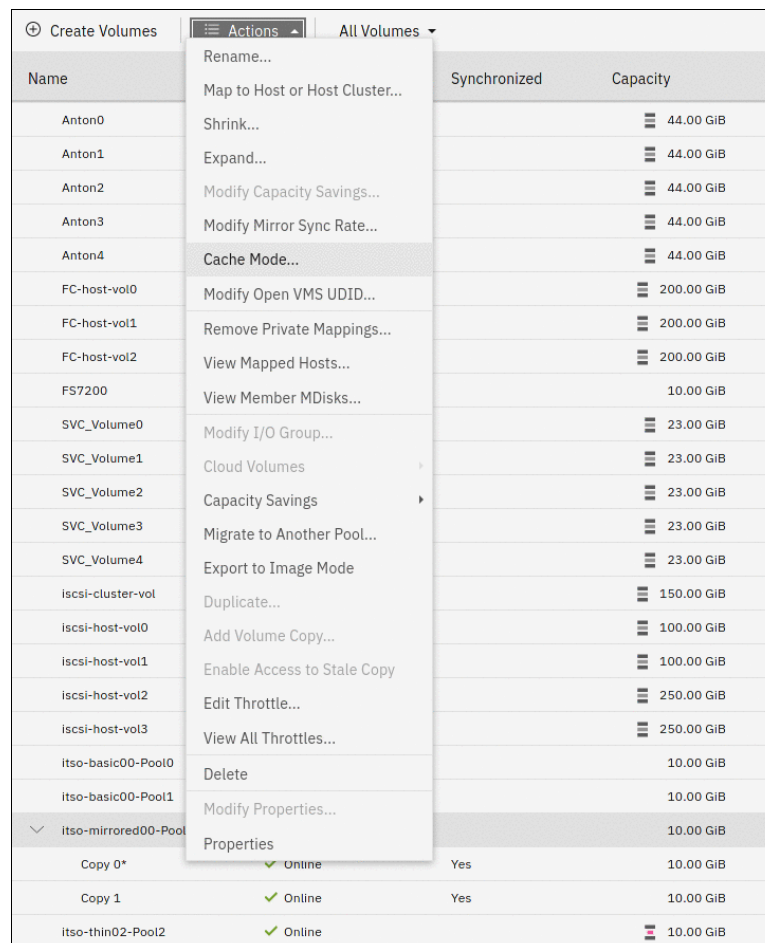

Figure 6-52 Modifying the volume cache mode
1. From the **Volumes** menu, select the volume that you want to modify. Select **Actions** → **Cache Mode...**, as shown in Figure 6-52.